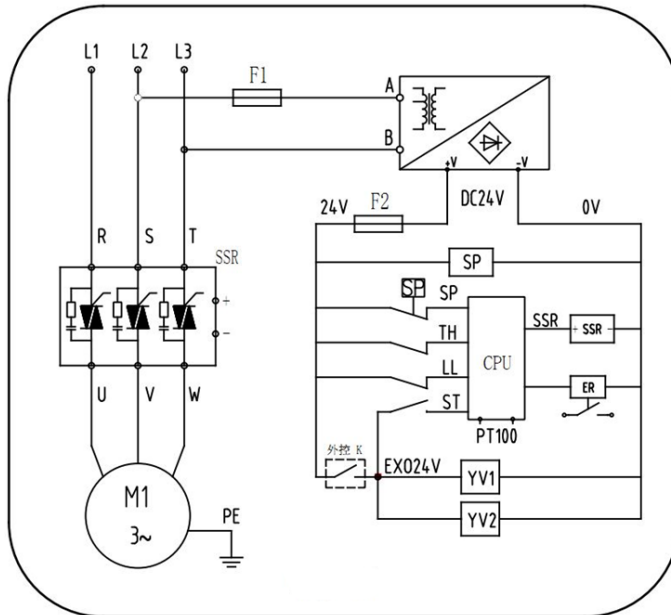

Fig. 6: Electrical connection
3.2.1 Installation position (ref. to fig. 6)